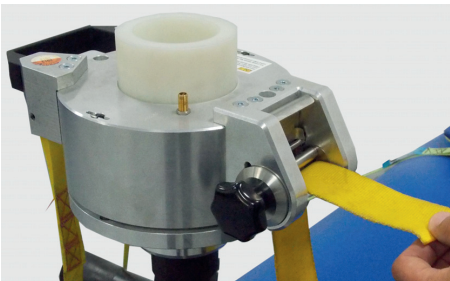

Fig. 6
- Thread the loose end of the tensioning belt **(6)** into the rollers **(11)** on the twist grip **(4)** (see Fig. 6) and tighten the belt by turning the star wheel **(4)** clockwise.